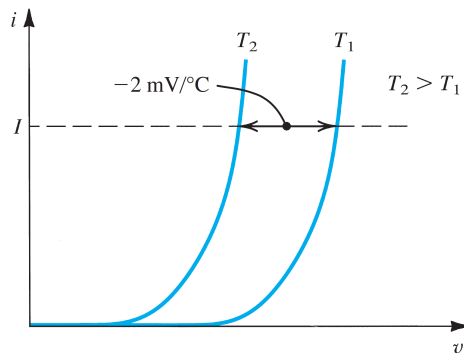

FIG 2. Diode temperature dependence
- Since both I_S and V_T are functions of temperature, the forward i-v characteristic varies (as shown in Fig. 2)